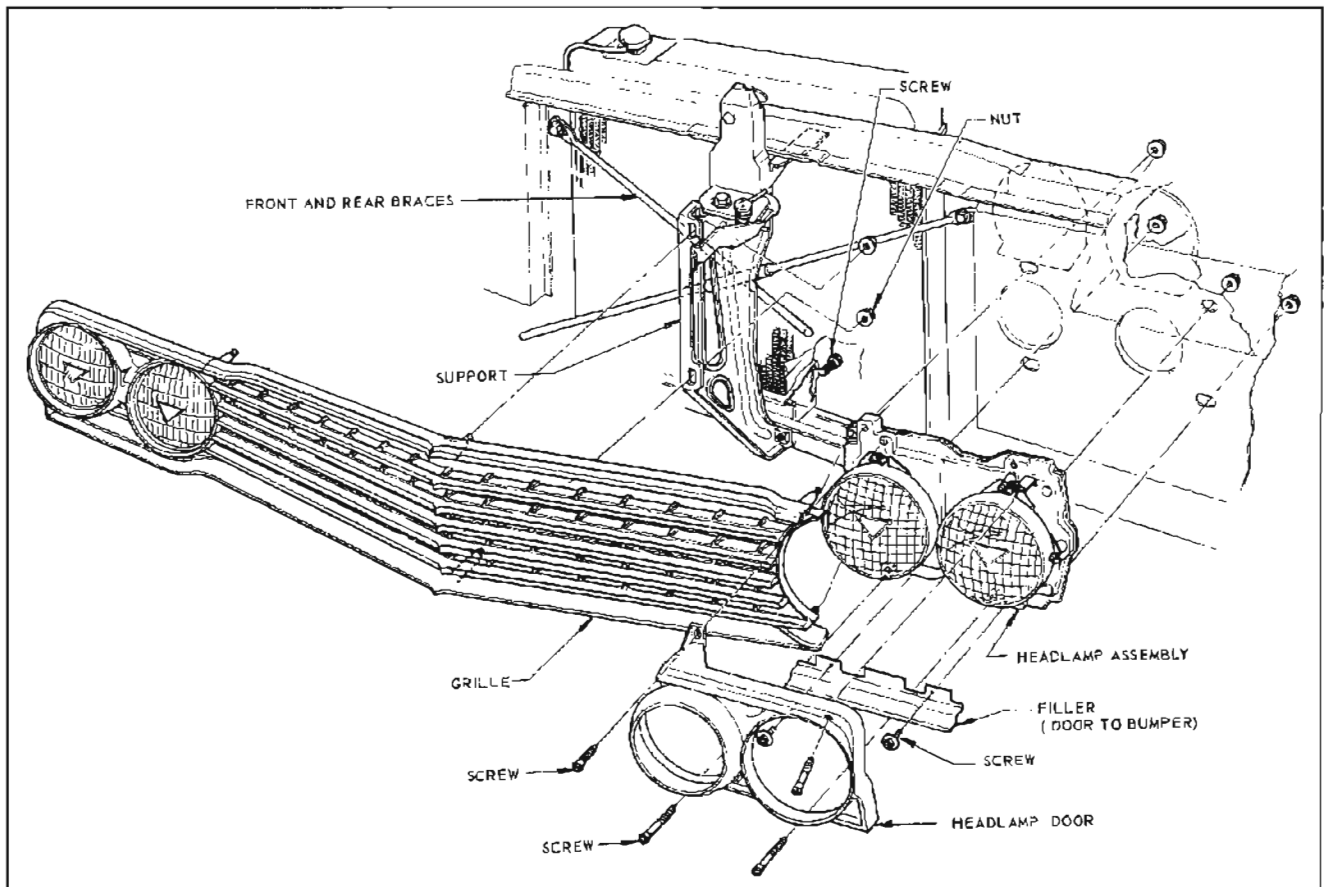

Figure 11-108—Front End and Headlamp Installation
4. Remove one bolt securing each cross brace (see Figure 11-108) to the radiator baffle and position front and rear braces out of way.
- (a) Unscrew four screws securing right headlamp door (see Figure 11-108) to headlamp assembly.
(a) Unscrew four screws securing right headlamp door assembly (see Figure 11-108) to headlamp assembly.